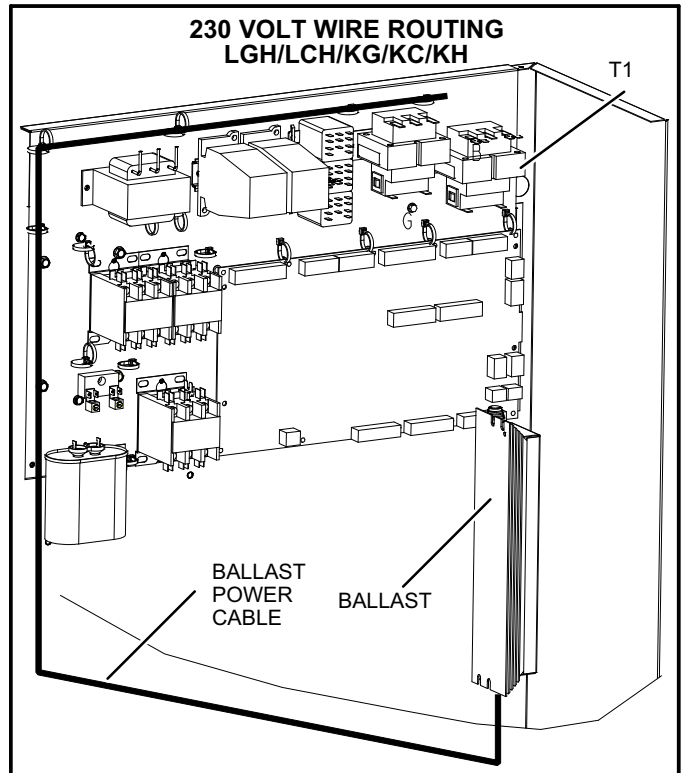

FIGURE 5
- Figure 5 - 230V LGH/LCH/KG/KC/KH